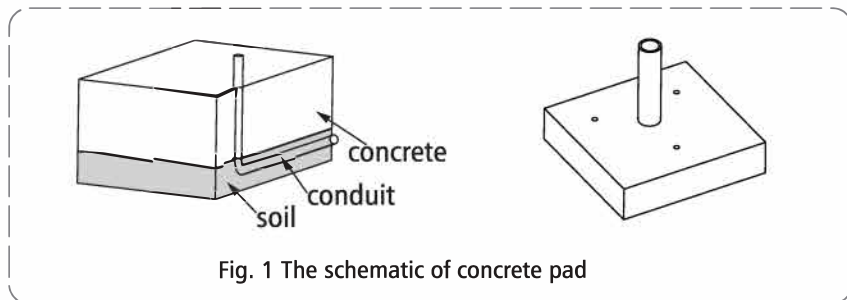
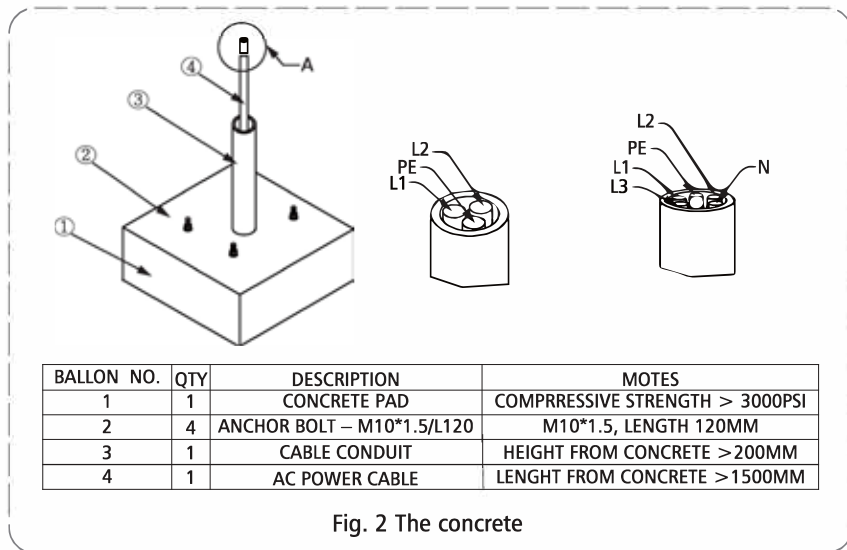

Fig. 1 The schematic of concrete pad
Fig. 2 The concrete
- First, build the concrete pad for pedestal, the compressive strength must be over 3000psi, reference picture is shown as Fig. 1 & Fig. 2, and the concrete pad dimensions(Space: W400mm X L400mm X H500mm) is shown as Fig. 3.